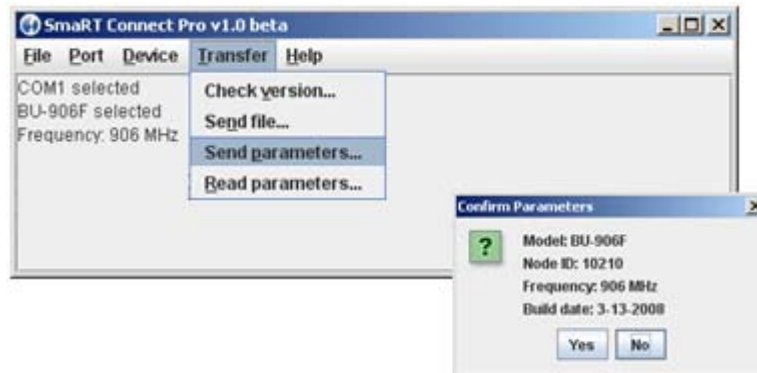
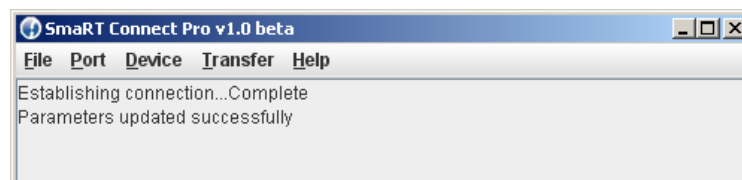

Figure 15
Figure 16
2. Figure 15 shows the **Confirm Parameters** dialog box. If the information shown is correct, click the **Yes** button. (Clicking the **No** button cancels the operation and returns you to the program window.) The program screen reads that the program is **Establishing connection**, and when established displays **Complete** as shown in the first line in Figure 16. The operation takes only a few seconds. When successfully finished, the program screen is updated confirming that the parameters update was successful as shown in Figure 16 below.